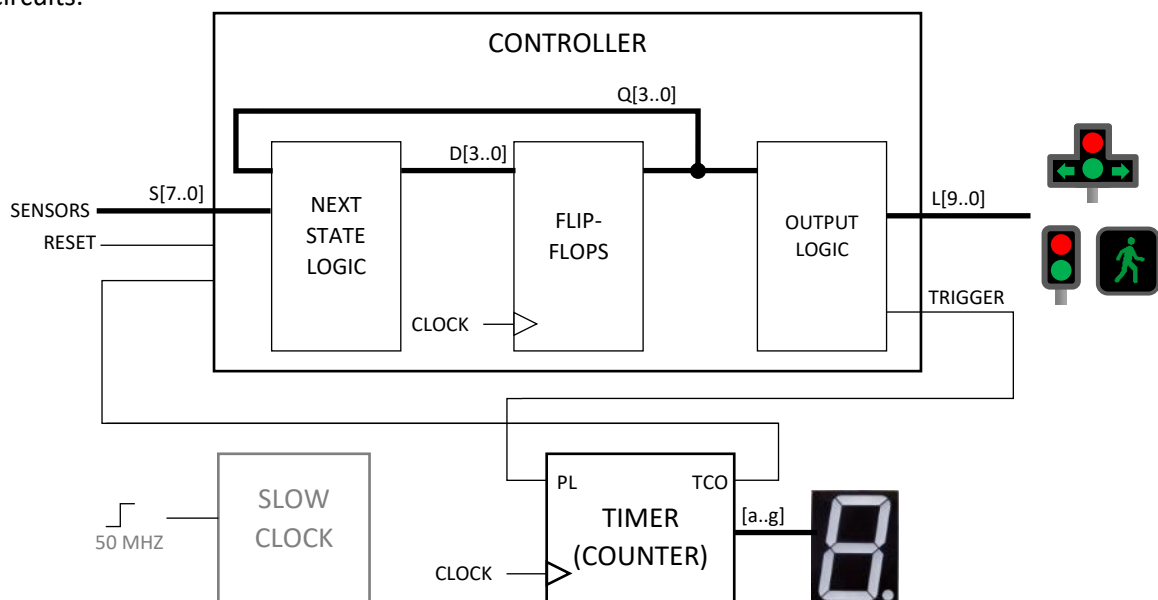

Figure W3.1
1	Referring to Figure W3.1, build the timer circuit as a separate module. The module should have one clock input, one parallel load input pin (PL), one terminal count output pin (TCO) and seven output to be connected to the 7-segment display. Then, create a symbol file from the timer circuit. Note that the design is similar to week 1 timer circuit but without the terminal count circuit.